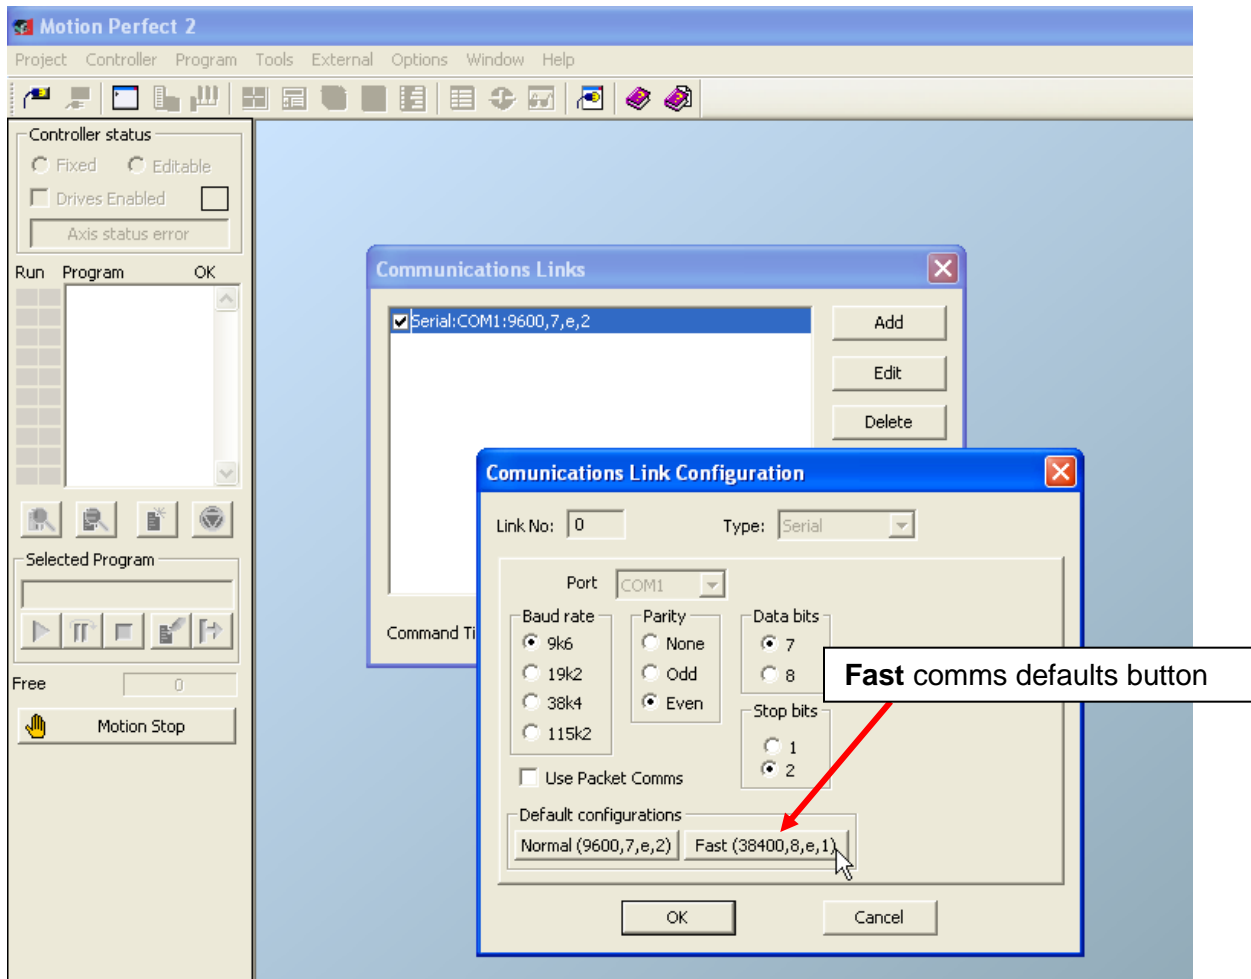

Fig 4 – Setting High Speed Comms for the MC302-K
5. Press the **Edit** button, then press the **Fast (38400,8,e,1)** button to select the higher baud rate setting for COM1 as shown in Fig 4.